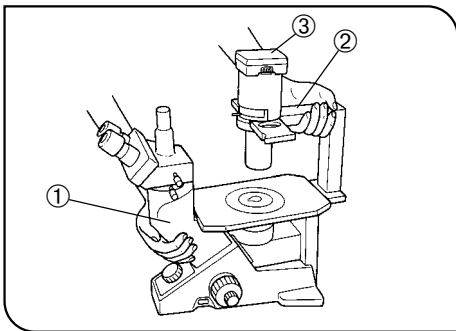

Fig. 1
2. When transporting the microscope, always hold the lower side ① of the observation tube and the illumination unit support ②.
4. The surface of the lamp socket ③ on the lamp housing support can get extremely hot. Make sure you leave sufficient space around the lamp socket, especially above it, to dissipate heat. (Fig. 1)